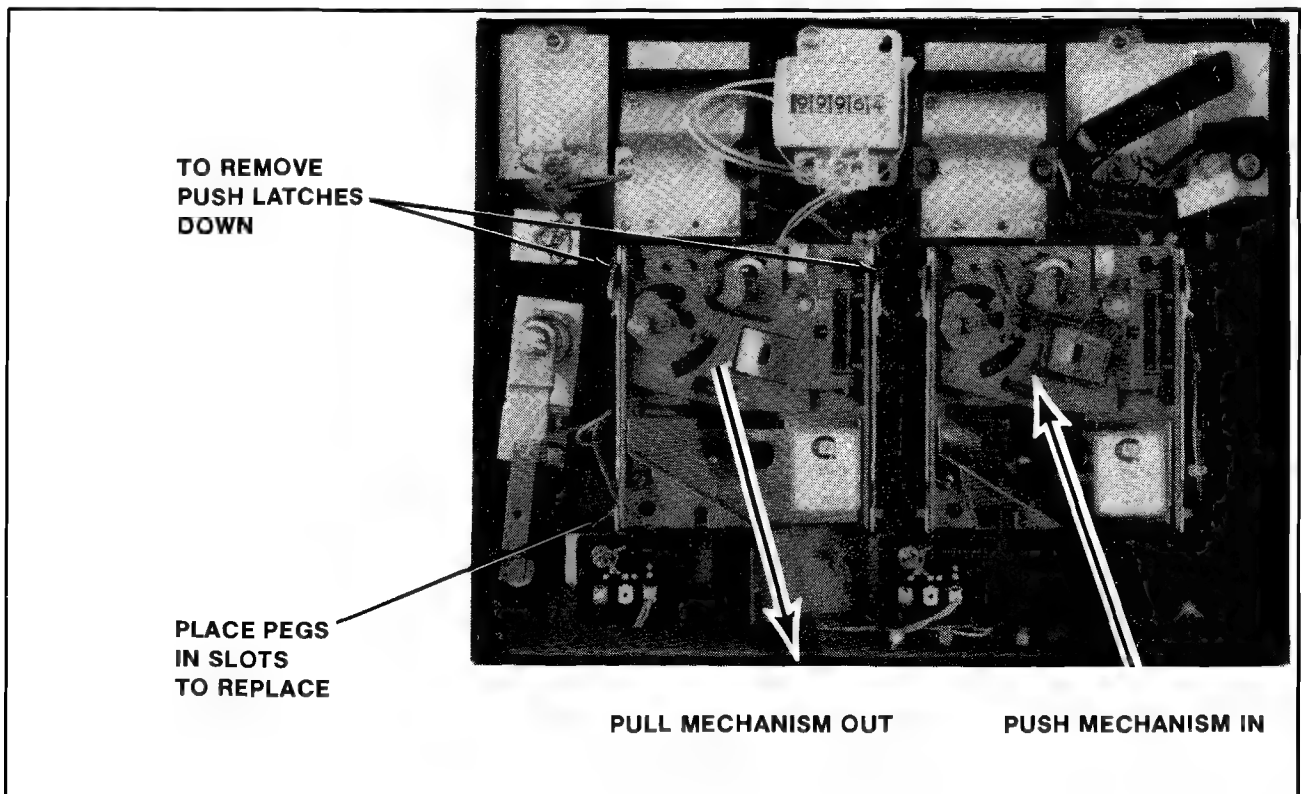

Figure 5-1 Removing and Replacing the Coin Acceptor
3. Remove the coin acceptor mechanism as shown in Figure 5-1.
9. Reinstall the coin acceptor to the coin door. See Figure 5-1.
3. Remove the coin acceptor mechanism(s) as shown in Figure 5-1.